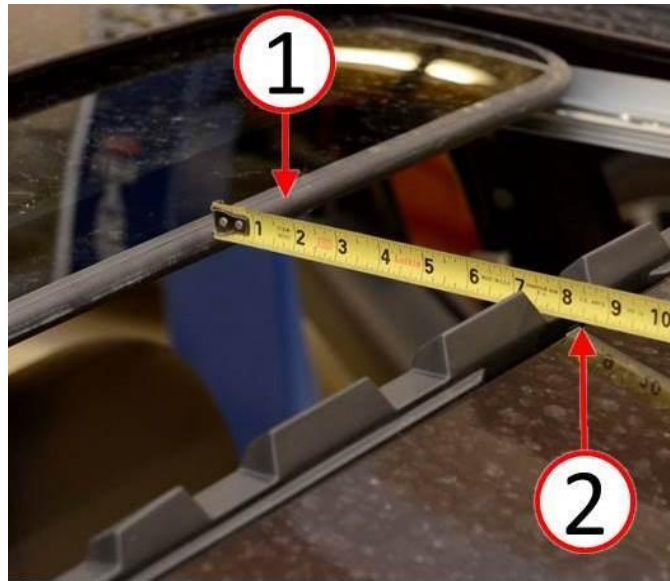

Fig. 13 Sunroof Opening Measurement
20. Open the sunroof glass panel (1) to 220 mm (8.5 in.) relative to the front roof opening flange (2) (Fig. 13).